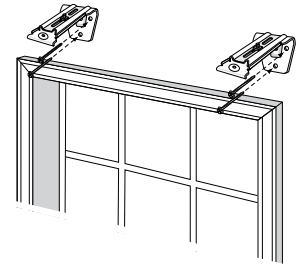

figure 1
4. Starting at one end, align the top of the first bracket with the mark on the wall. Attach to wall using the provided #8 x 1½" screws and appropriate fasteners (figure 1).